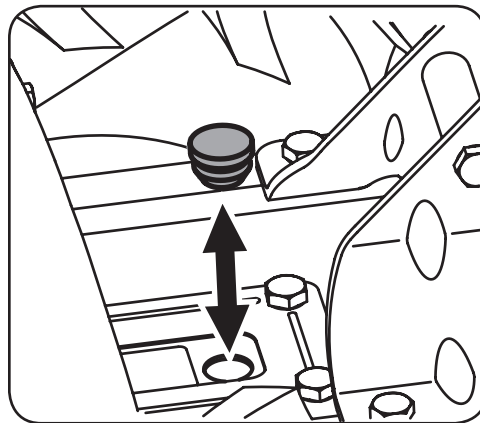

Figure 5-2
3. Remove the oil fill plug from the transmission housing and look inside the oil fill hole to locate the main drive shaft situated below the hole. See Figure 5-2.